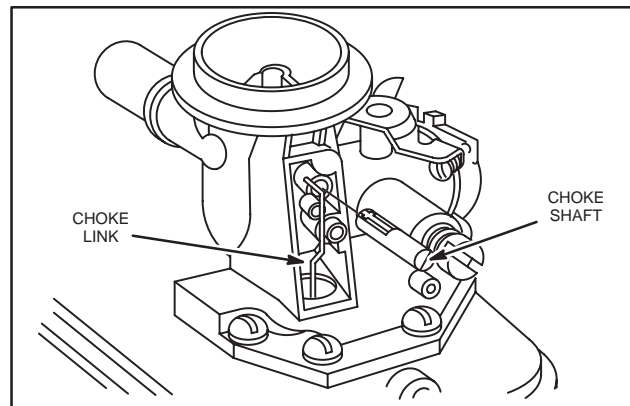

Fig. 225 – REMOVING AUTOMATIC CHOKE,
2. Then slide choke link out choke shaft lever. Pull shaft out of plate, Fig. 225.